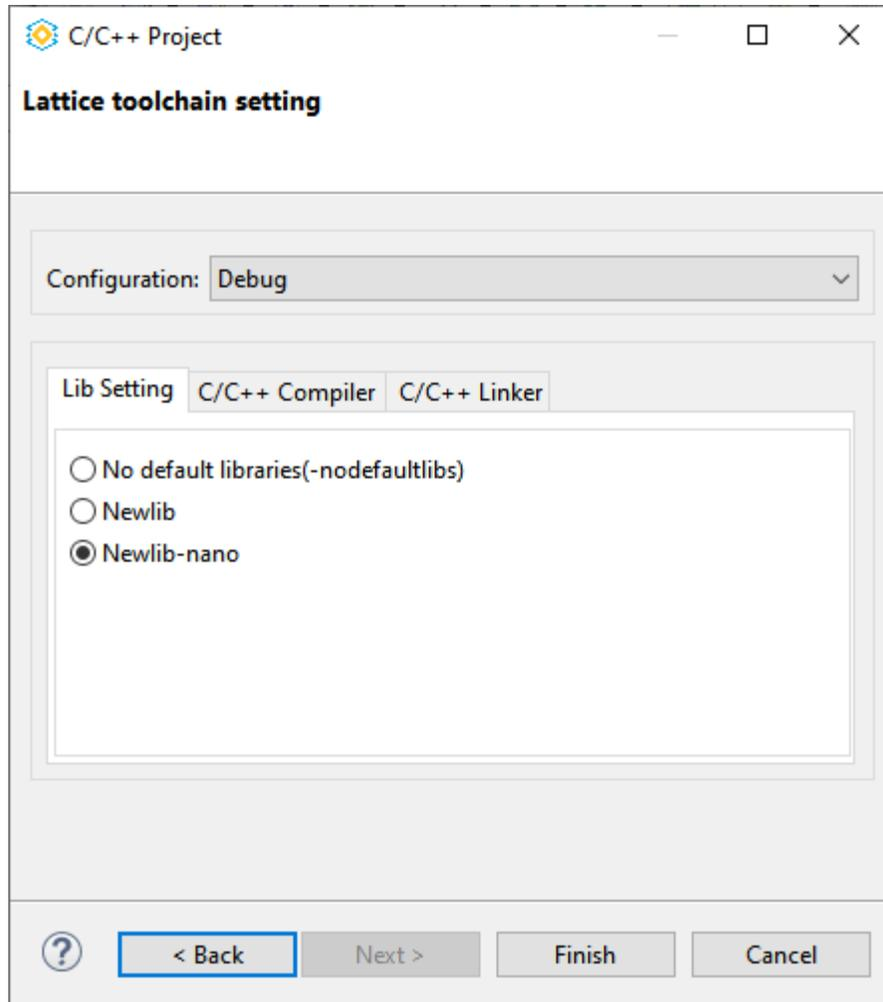

Figure 2.61. Lattice Toolchain Setting Dialog
4. Enter a project name in the **Project Name** field, such as HelloWorld\_C. Click **Next**. The Lattice toolchain setting dialog opens (Figure 2.61).